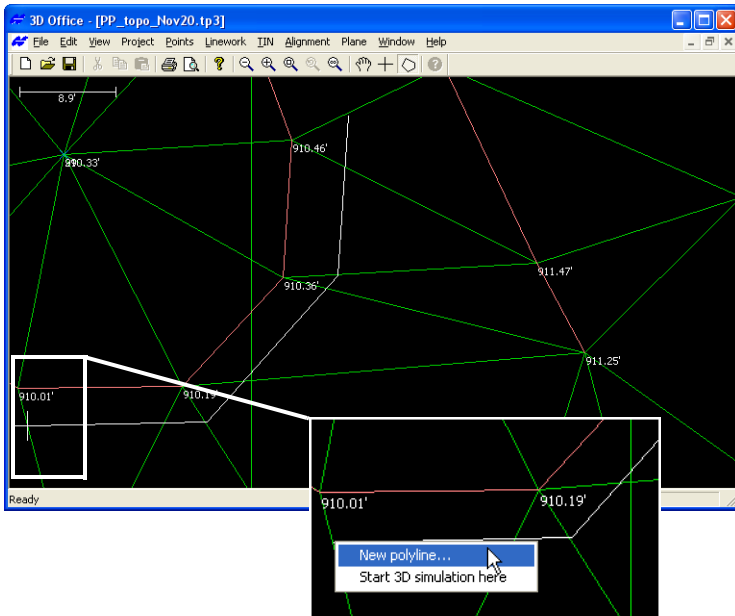

Figure 4-6. Trace New Polyline with Polygon Tool and Add to File
1. To add a new polyline to the file, click the polygon selection tool, then click on the screen to begin the polyline. Click at subsequent locations to create the end point or corner points (Figure 4-6).
- right click and click **New polyline** on the pop-up menu (Figure 4-6)